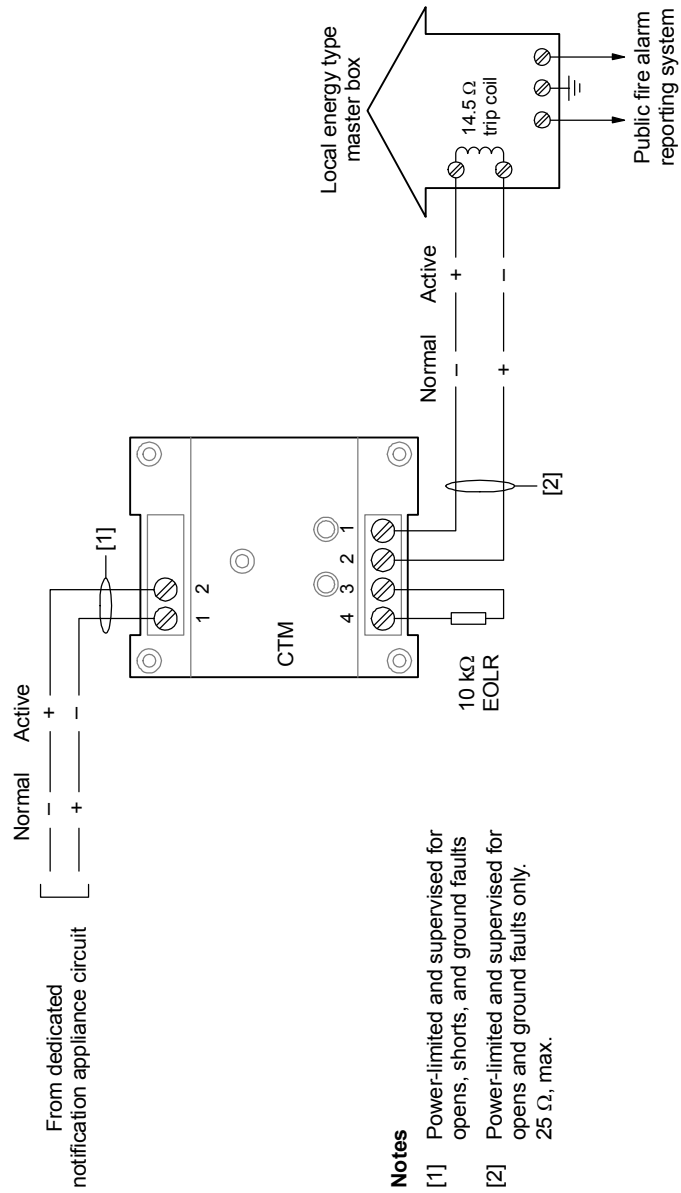

Figure 4-8: CTM application wiring diagram
3. Wire the CTM as shown in Figure 4-8.